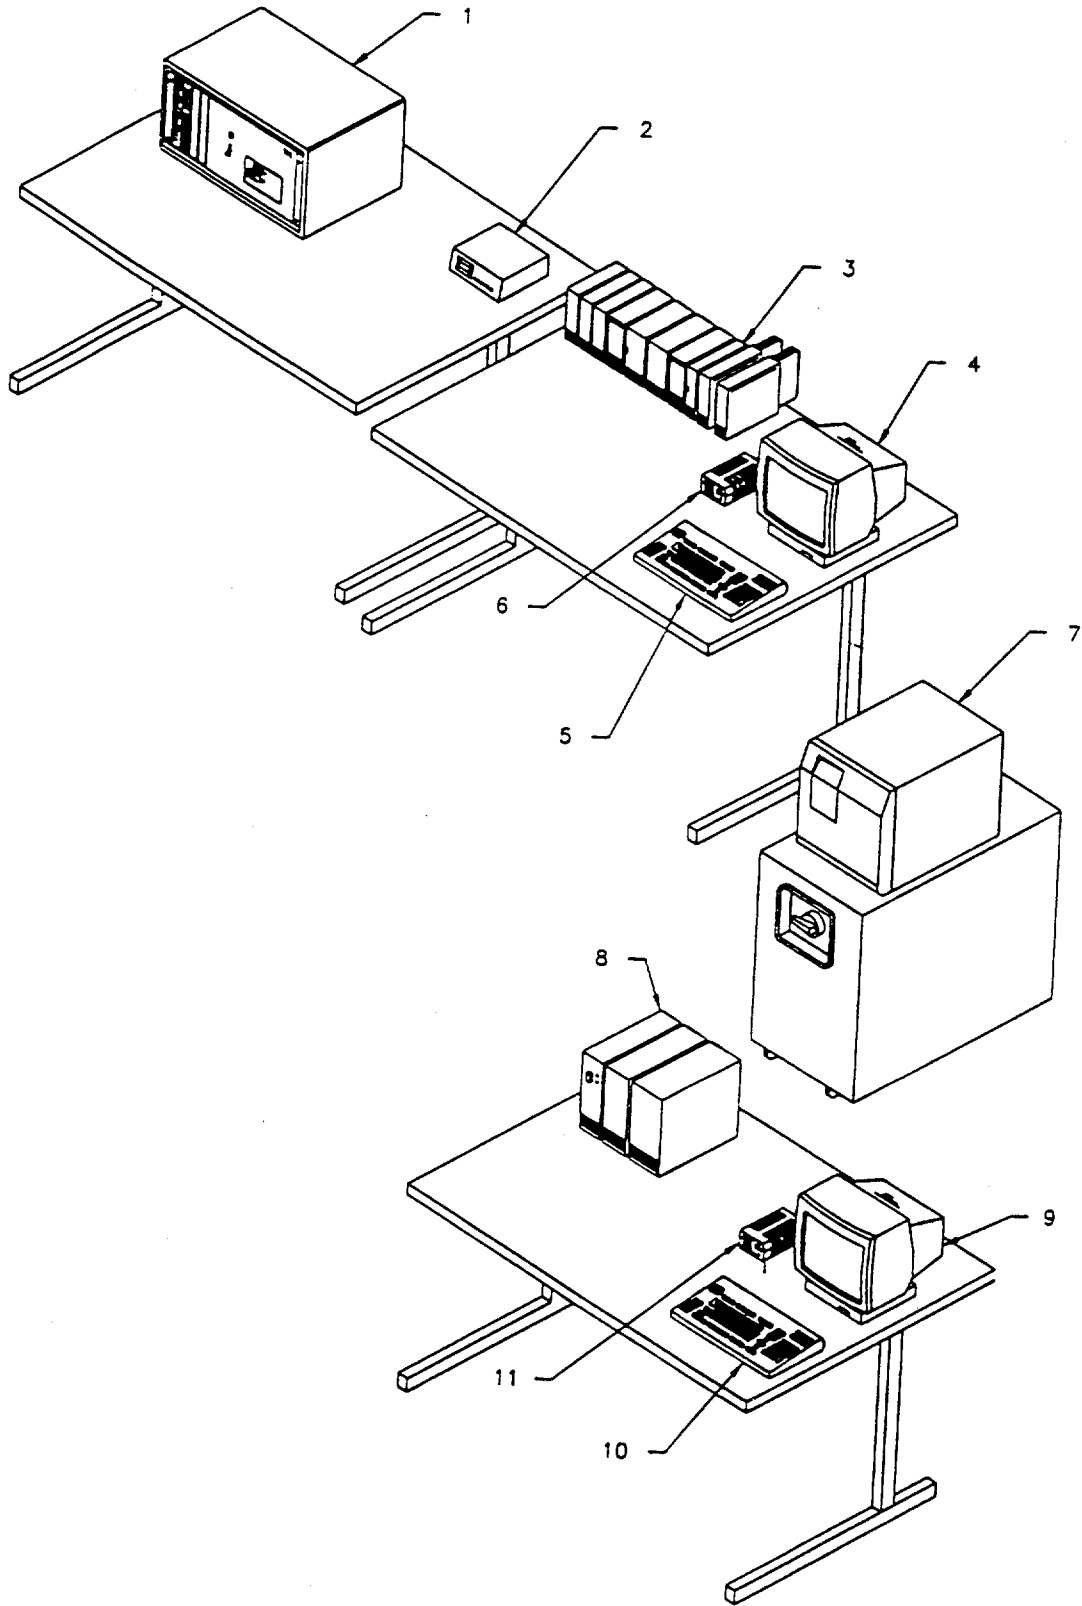

Figure 1-6. Remote Status Monitor
**b. Remote Status Monitor (RSM).** The RSM is similar to the PMC. The RSM has a PMC, CPU, and an operator workstation. Figure 1-6 depicts the location of each component.
**(1) Remote Status Monitor (RSM) Console Cabinet (Item No. 1).** The PMC cabinet consists of a +12 vdc power supply, one ICS PWA, one quad switch PWA, and four remote data encryption system modules. Its function is to assume control of the system if the PMC malfunctions.
**(2) 9600 Baud Modem (Item No. 2).** The modem processes serial digital data.